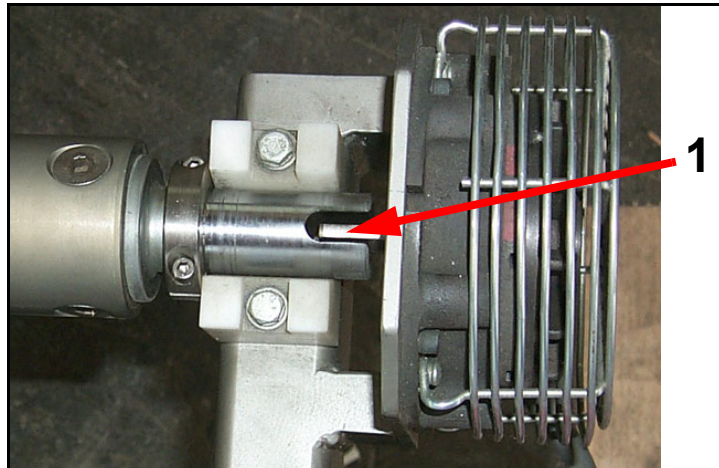

Figure 4-39 - Air Motor Shaft Positioning
8. Place new film roll and shaft on empty portion of rack as shown below. Make sure the slotted end of the shaft mates with the air motor shaft as shown in *Figure 4-39*. The roll can go into either front or rear positions – whichever is empty.